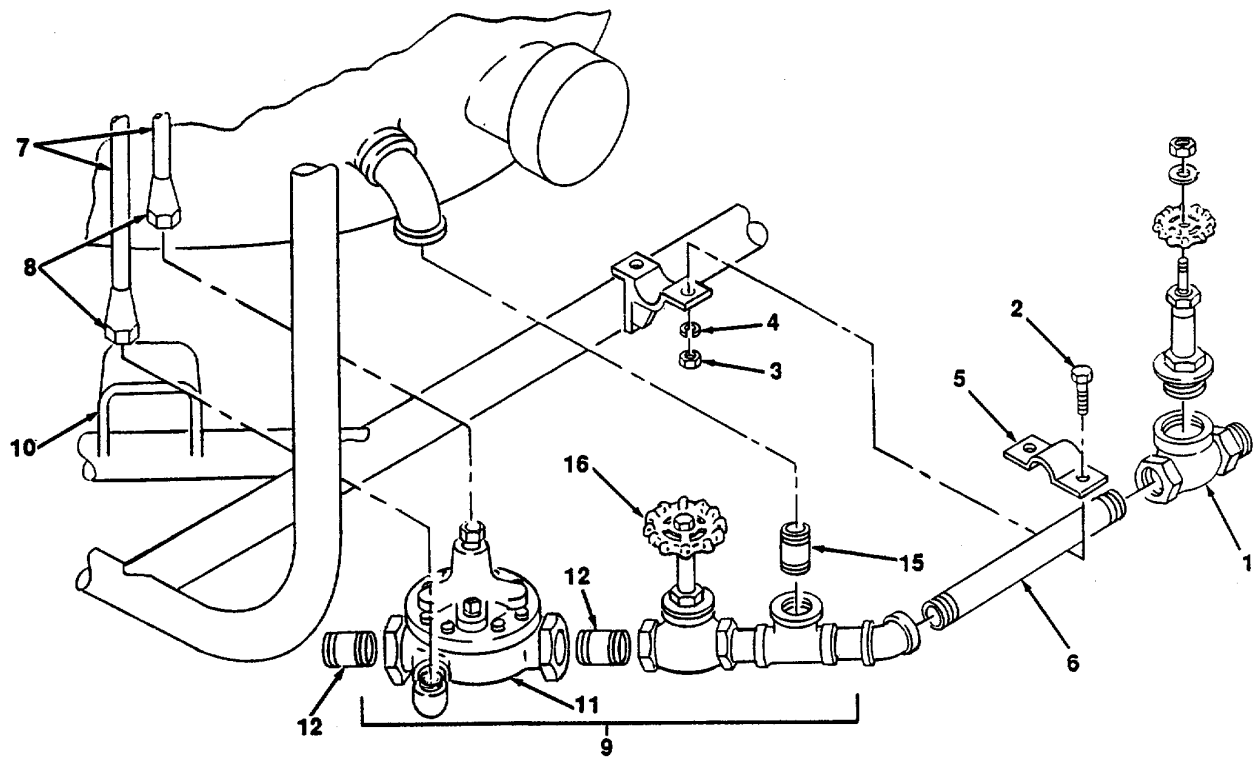

Figure 4-13. Automatic Drain Valve, Replace.
a. Removal (figure 4-13)
- (1) Remove bonnet from valve body (1).
- (2) Remove two screws (2), nuts (3), lockwashers (4) and remove clamp support (5).
- (3) Remove pipe (6) and disconnect automatic drain valve lines (7) at fittings (8).
- (4) Turn remaining assembly (9) until it clears the bracket (10).
- (5) Remove automatic drain valve (11) from isolation drain valve.
- (6) Remove pipe nipples (12) from automatic drain valve (11).
c. Installation. (figure 4-13)
- (1) Ensure fitting threads are free of dirt and damage.
- (2) Install pipe nipples (12).
- (3) Install automatic drain valve (11) so that bottom of valve stem is visible from discharge side.
- (4) Turn assembly (9) to original position.
- (5) Connect automatic drain valve lines (7) at fittings (8).
- (6) Install pipe (6) with valve body (1) onto elbow of assembly (9).
- (7) Position clamp support (5) on pipe (6) and install two screws (2), lockwashers (4) and nuts (3).
- (8) Ensure valve body is tight and install bonnet.